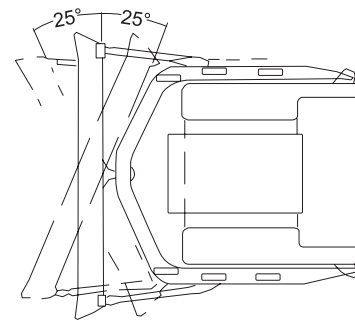

Figure 2-75
► The two sides of the blade can be adjusted to be 25°. (Figure 2-75)